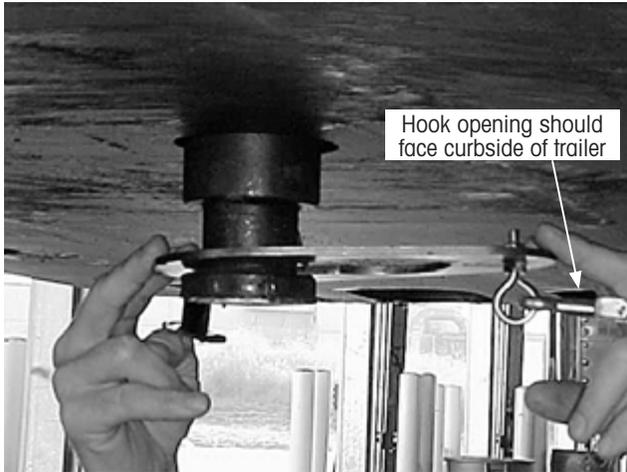

Figure 11: Attaching the extensometer tape to the kingpin adapter
1. Thread the extensometer tape over the trailer landing gear assembly and attach the hook on the end of the tape to the kingpin adapter eyebolt (Figure 11). The extensometer hook opening should face toward the curbside of the trailer.
7. Check the kingpin adapter seating. Pull down gently on the kingpin adapter with both hands until the adapter is flush with the lower kingpin latching surface, then gently remove both hands from the kingpin adapter. Refer to Figure 11 for hand placement.